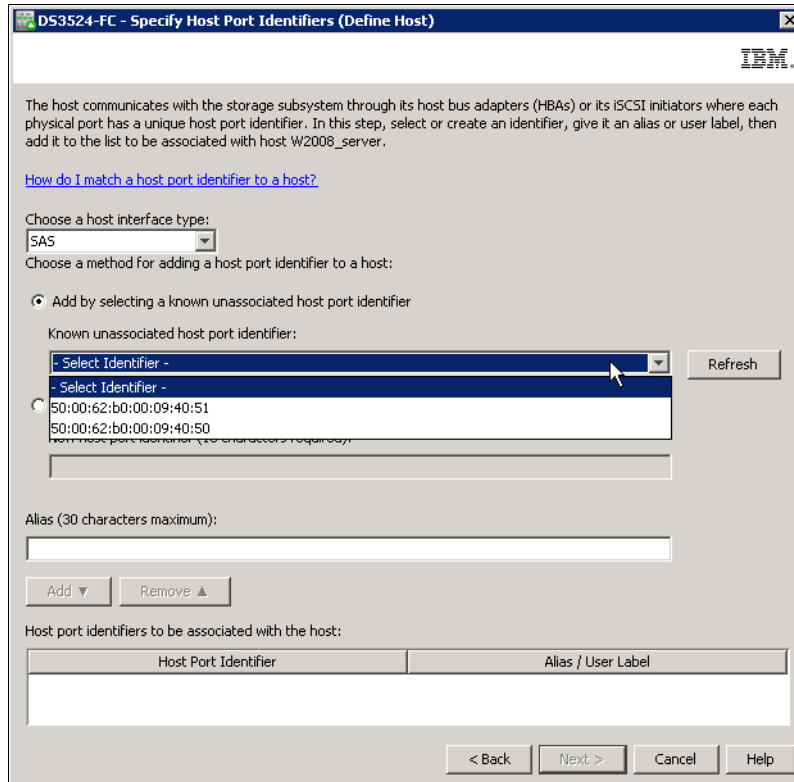
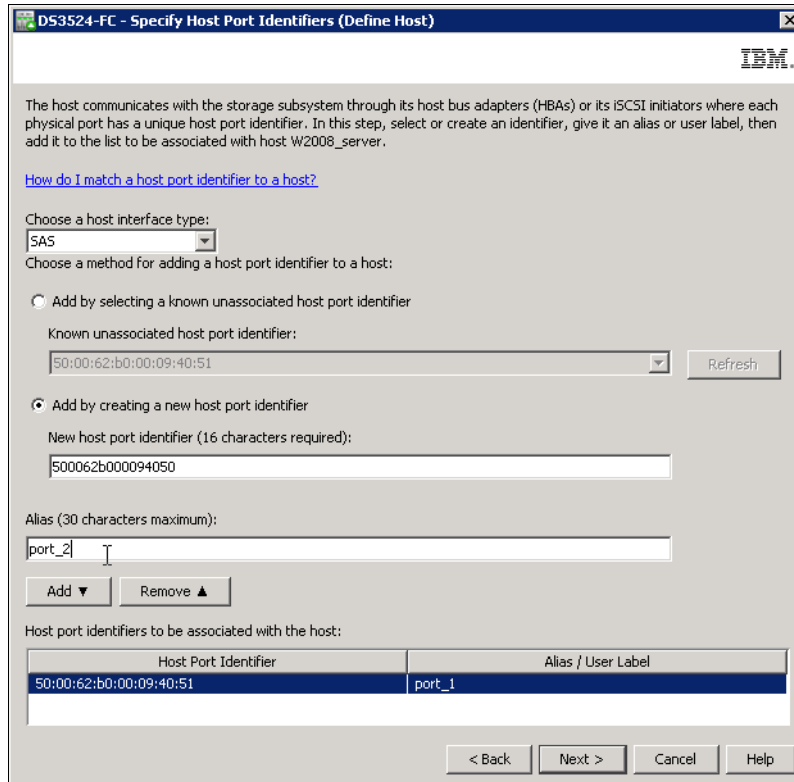

Figure 11-5 Define Host: Interface type, known port identifier and Alias
Figure 11-6 Define Host: Interface type, new port identifier and Alias
4. In the next window (Figure 11-5 on page 280), you need the attachment protocol to specify the host interface type (SAS, FC, or iSCSI) and the HBA host port information (host port identifier and Alias). Remember that the HBA host port identifier is the world-wide port name of the particular HBA port. To make sure that you know what your server's HBA WWPN is, use the appropriate management tool for your HBA (for example SANsurfer management tool for Qlogic HBA), or use Fabric Name Server in FC fabric management tool, or you can note WWPN from BIOS during boot process of the server where HBA is placed.
- Select an active port already detected by the storage subsystem in the Known unassociated host port identifier menu as shown in Figure 11-5, or type the world-wide port name directly into the field, if the server is not connected or zoned yet, but you already know its WWPN (see Figure 11-6 on page 281).